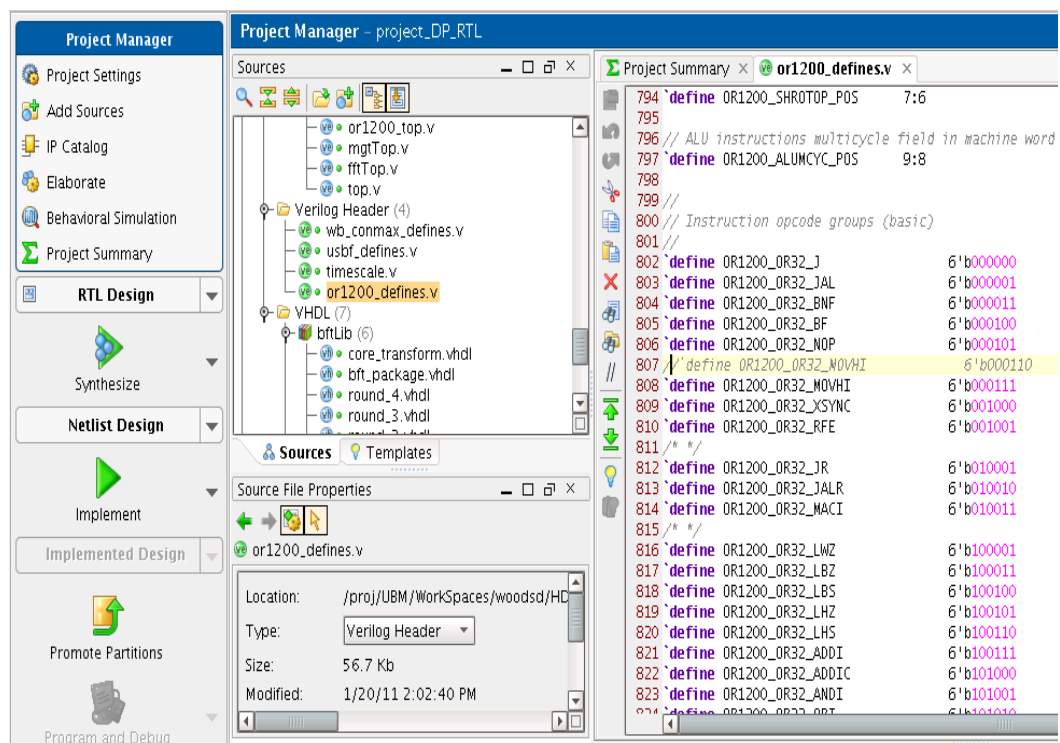

Figure 1-14: Updating `or1200_defins.v`
3. Double-click `or1200_defins.v` to open it in the Text Editor (Figure 1-14).